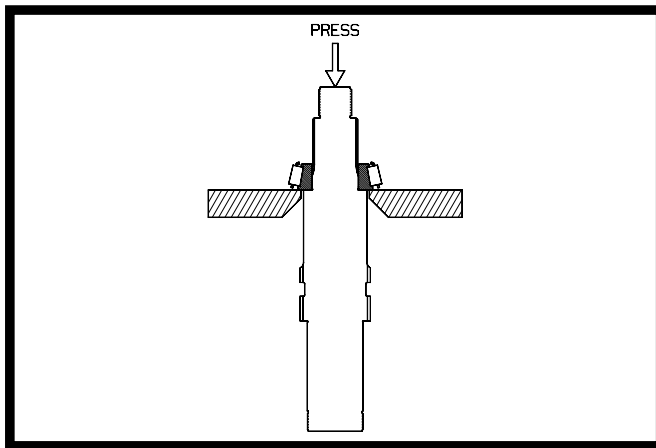

Figure 4.20
4. Invert the shaft assembly in the press so that the remaining bearing cone is supported. See Figure 4.20. Remove the bearing cone assembly.